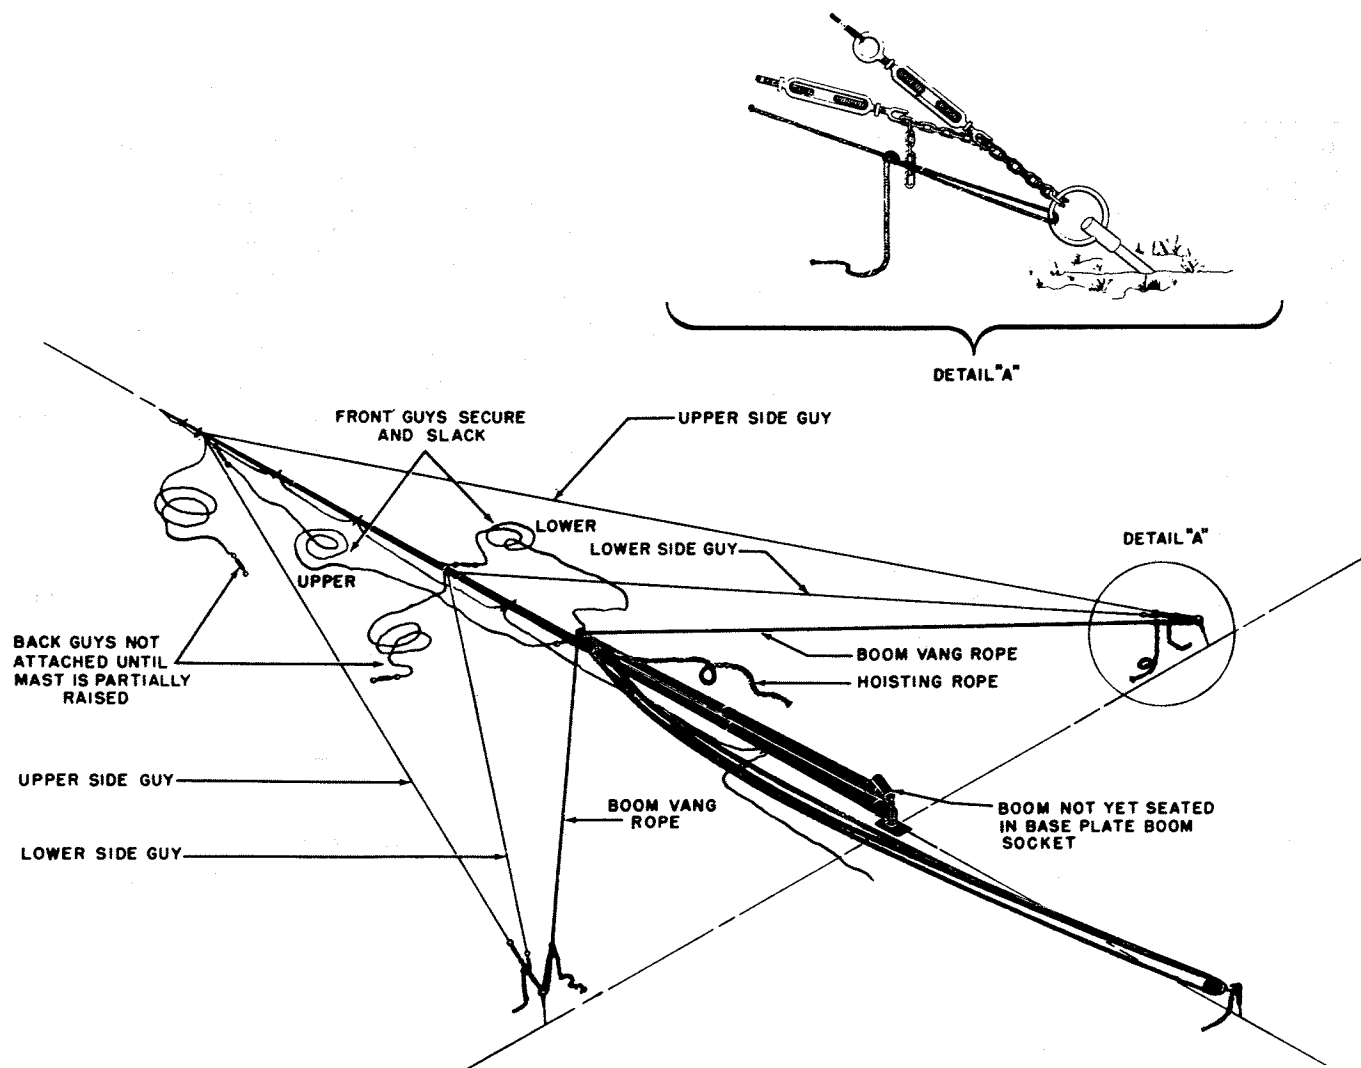

Figure 3-7. Mast and Boom Rigged for Erection
3-13. RIGGING THE MAST. (See figure 3-7.)
b. Open the turnbuckles attached to all guy wires approximately halfway. Take up the slack on the upper side guy wires and shackle their turnbuckles to the side anchor chains, as shown in detail A of figure 3-7. Attach the lower side guy wires to the same chains in the same manner. Leave a few links of chain between attaching points so that the chain can distribute the pull and prevent the turnbuckles from interfering with one another when the final adjustment in tension is made.